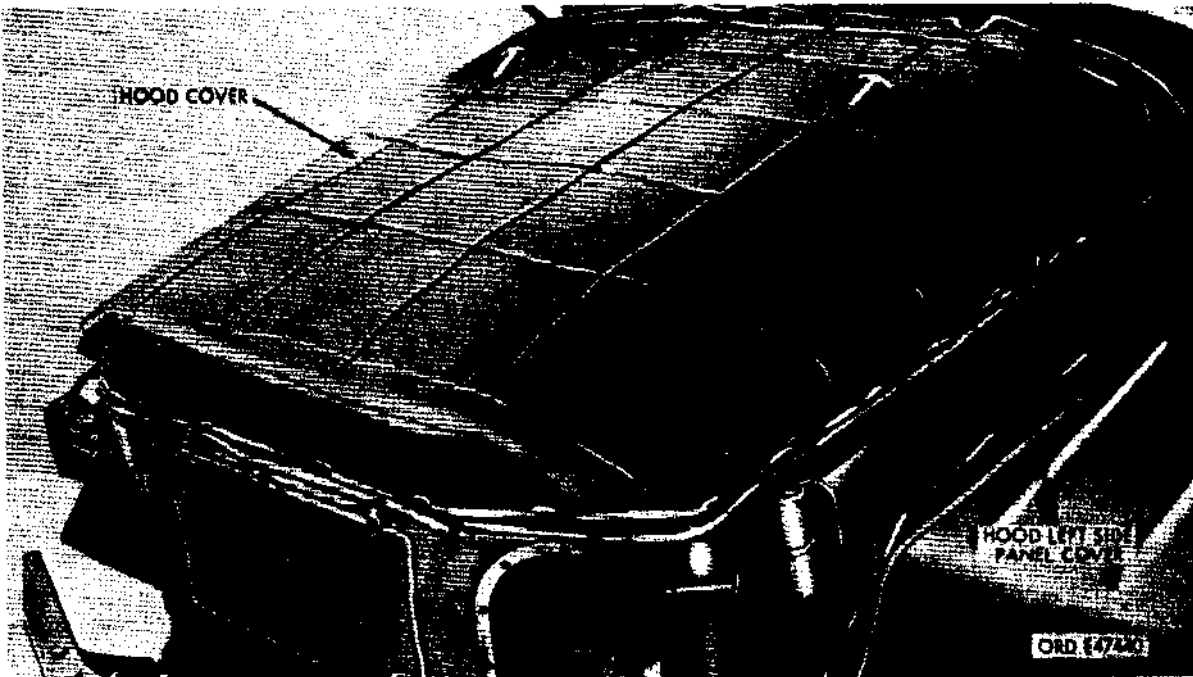

Figure 651. Hood cover brush guard cover, and hood left-side panel cover installed
- (2) Install the vehicle air cleaner and connect all air lines (TM 9-2320-211-20).
m. Installation of Hood Covers (Figs. 651 and 652).